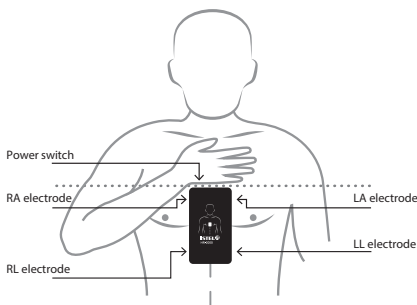

Fig. 4 Method of applying the device
2. Put your palm to the chest and place your thumb in the suprasternal notch (dip in between the clavicles and above the manubrium of the sternum). Apply Istel HR-2000 device in the extended line of the little finger, along the axis of the chest (parallelly to the rib line) (Fig. 4).